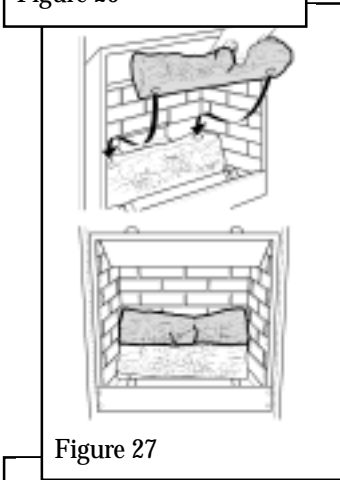

Figure 27
2. Place the rear log over the base log. Locate the holes in the top log into the pegs in the base log. See figure 27.